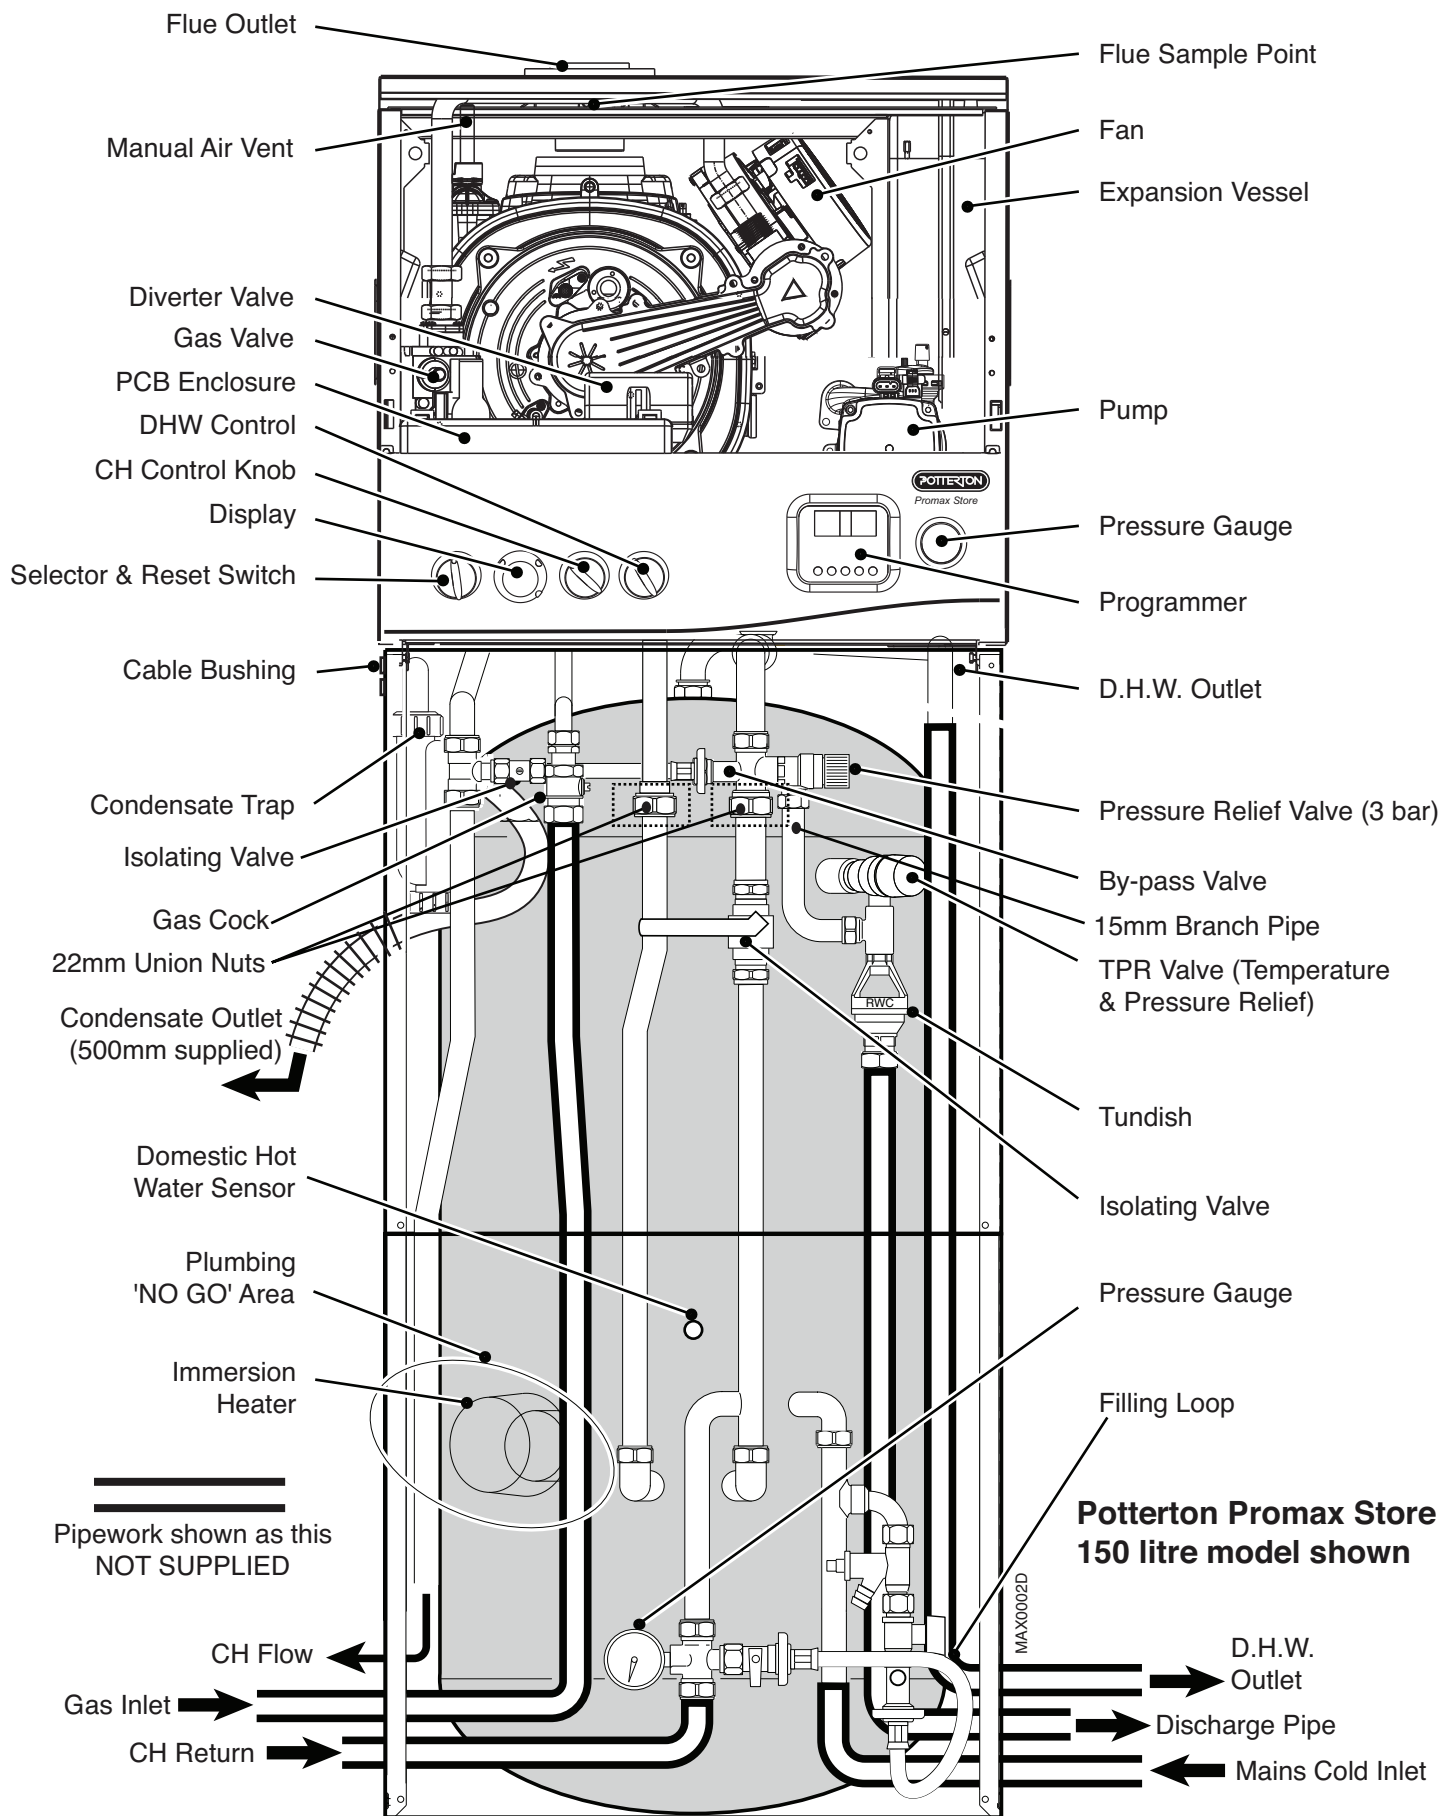

Fig. 10
4. **Apply sealant to cone faces** of both 22mm Union Nuts (see Fig. 10). Remove cardboard pipework support. Attach the 15mm x 90° branch pipe joining the two relief valves/tundish.
A pressure relief valve set at 3.0 bar is fitted to the Heat Engine's primary circuit. Trim the supplied 15mm branch pipe to length before fitting - See Fig. 10.